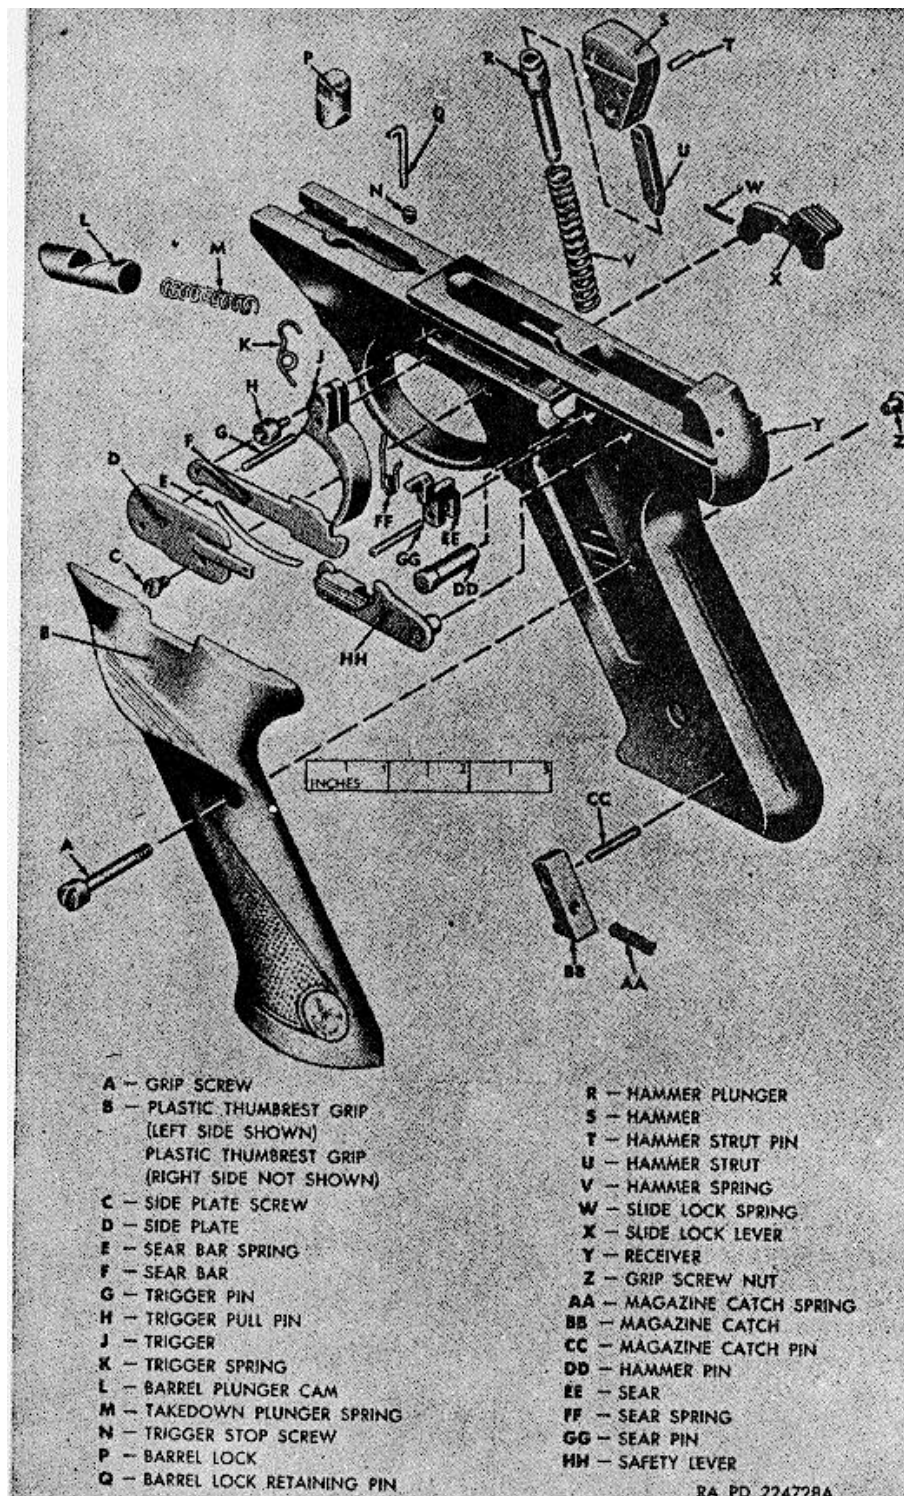

Figure 54. Frame group-exploded view (high standard).
**Note.** The key letters shown below in parentheses refer to figure 54.
a. *General.* The frame group (fig. 54) consists mainly of the grip group, barrel plunger group, and trigger group.
- (1) Unscrew the grip screw (A) from the grip screw nut (Z) and remove the two grips (B).
- (2) Drive out the magazine catch pin (CC). Remove magazine catch (BB) and the magazine catch spring (AA).
- (3) Remove the slide lock lever (X) and slide lock spring (W). Separate spring and lever only if replacement of either part is required.
- (4) Unscrew the side plate screw (C) and remove the side plate (D). Remove the safety lever (HH) from the frame. Pull the sear bar spring (E) from the slot in frame and remove the sear bar (F)